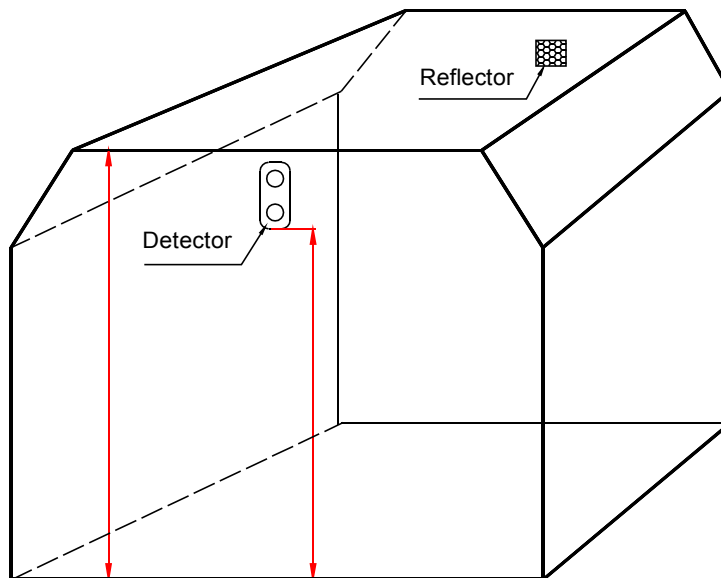

Fig. 5 Mounting
- b) When space height is between 5m and 8m, the detector and reflector should be mounted on the two facing walls 0.5m to 1m from the ceiling, see Fig. 5.